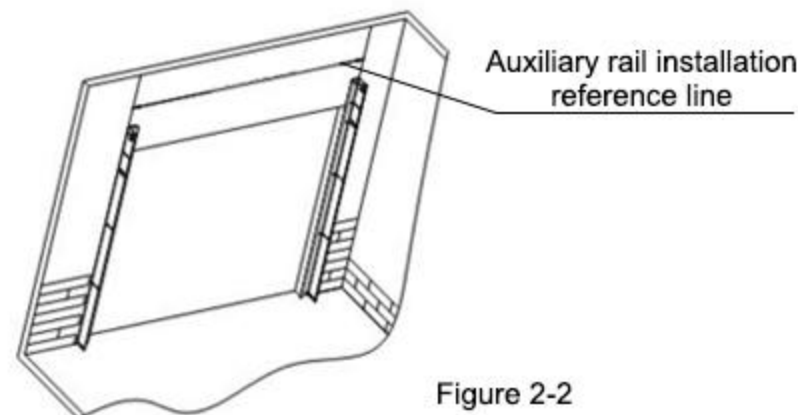

Figure 2-2
2.4 Make the outer side of the auxiliary rail coincide with the outer reference line of the auxiliary rail. It is necessary to ensure that the height of the left and right auxiliary rails is consistent, and the height error is not greater than 2mm. Determine the position of the expansion bolt or self-tapping screw according to the mounting hole on the auxiliary rail (as shown in Figure 2-2);